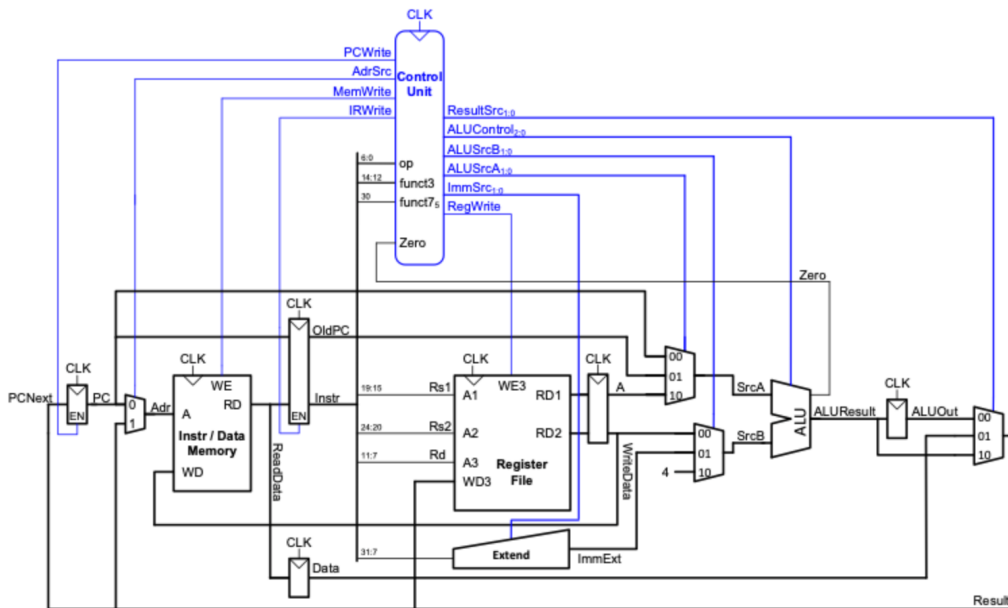
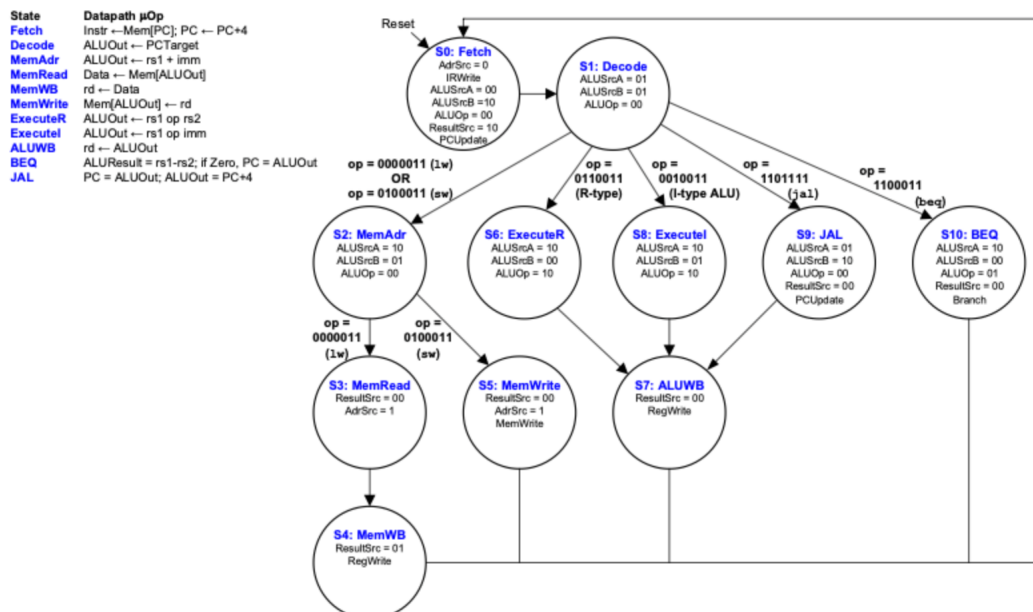

Fig.1 Block diagram of RISC-V Multicycle Processor
Fig.2 State diagram for Main FSM
Data/Instruction Memory is defined at “instr_data_mem.v” file so please design Controller and Datapath. Refer pages “Multicycle Processor Main FSM” and “Multicycle RISC-V Processor” in class materials. Fig.1 and Fig.2 shows snapshot of these slides.
In Fig.1, please keep in mind that net “Result” and “PCNext” is identical net. For grading points, please refer below statements.
For example, after reset, the first command “addi” is processed by FETCH (0)->DECODE (1)->EXECUTEI (8)-> ALUWB (7) flow. For easy follow and debug, please define same number for each status in FSM as shown at Fig.2.